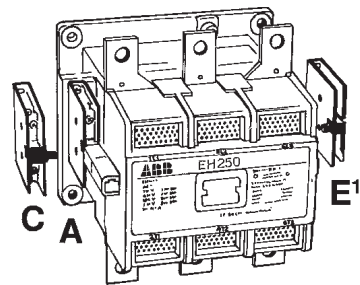

Fig. 2
- 1) **SK 829 002-E** is a special auxiliary contact block with overlapping. Can be mounted on the contactor's right side only. No other block can be mounted outside (figure 2). Contact 35-36 has late opening. 47-48 has late closing.
- Moving main contacts: Lift the respective clamp and press the contact into neutral position. See Fig. 2. Remove the contacts.